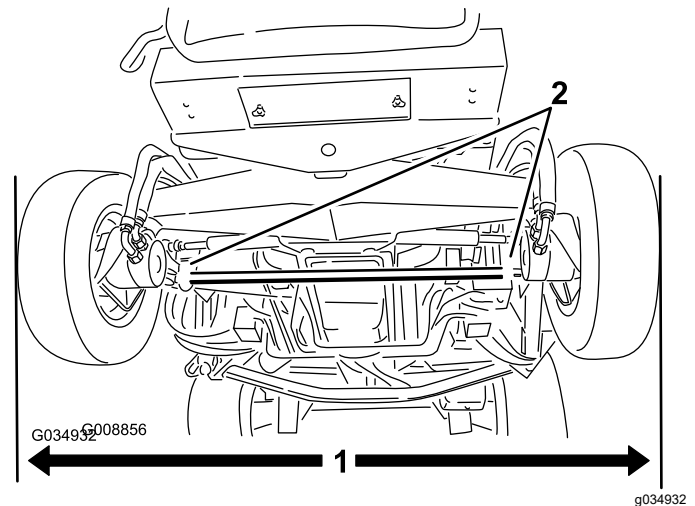

Figure 117
1. With the rear tires in a straight position, measure the outside distance (at axle height) at the front and rear of the rear tires (Figure 117).
2. To adjust the toe-in, loosen the clamps at both ends of the tie rods (Figure 117).